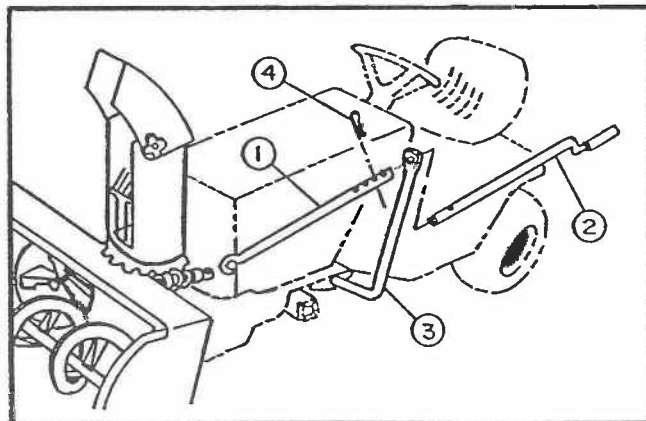

FIGURE 13
- e) Insert the plastic grommet (fig.3, item 2) in the upper hole in the rotation handle support bracket (fig.13, item 3).
- f) Attach rotation tube (fig.13, item 1) to shaft of rotation worm, by placing the hooked end of the lower rotation tube through the hole in the shaft of the rotation worm.
- g) Place rotation handle (fig.13, item 2) through support bracket (fig.13, item 3), insert into rotation tube (fig.13, item 1) and secure with a 4mm x 80mm hairpin (fig.13, item 4).